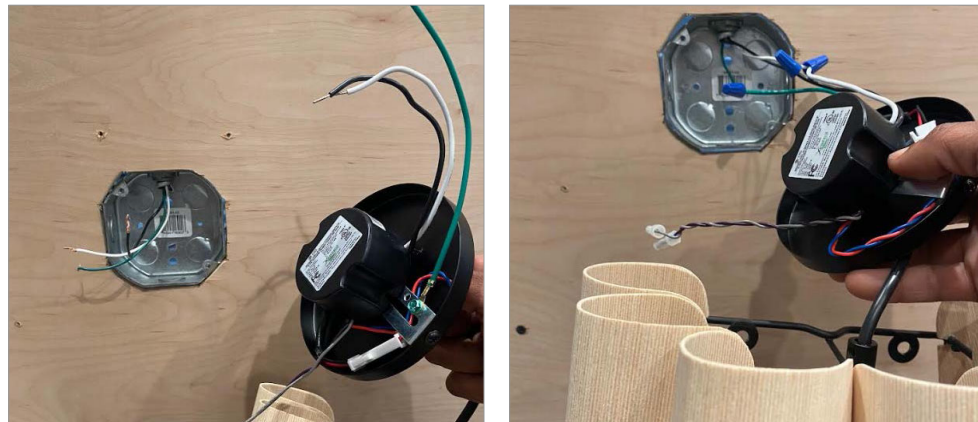

Fig.1b: Wiring for junction box to fixture.
Locate wires from fixture and driver. Use (5) wire nuts to connect neutral, live, DIM (+), DIM (-) and ground wires from the junction box and fixture (Fig.1b). If DIM is not necessary, crimp wires.